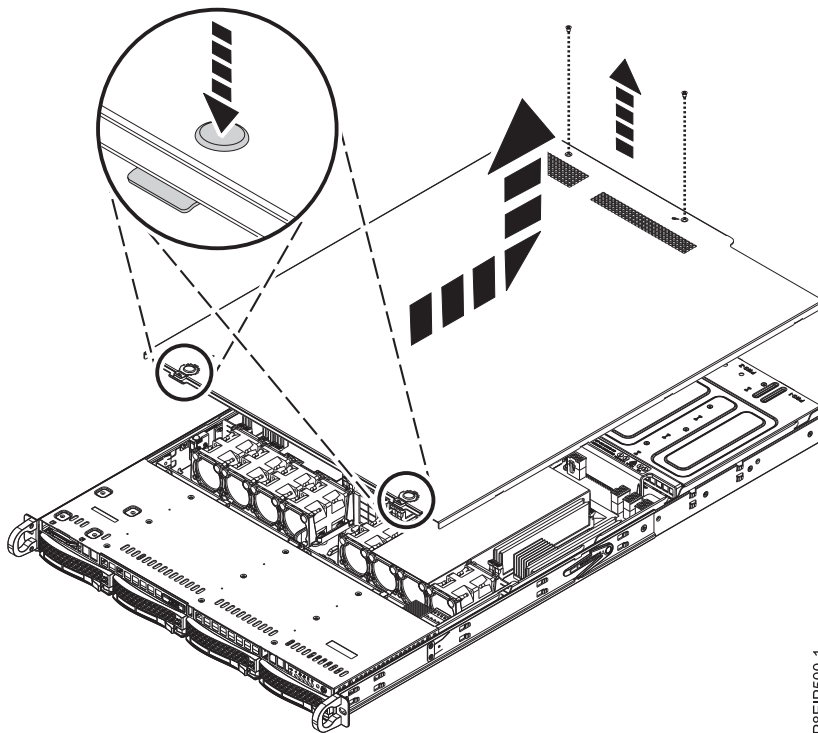

Figure 82. Releasing and opening the cover
2. Remove the two cover screws (1), from the rear of the cover.
3. Press both buttons on the top cover (2) to release the latches as shown in Figure 82, and push the cover back about 0.5 in (1 cm) until it stops. If the buttons do not easily press down, partially remove the drives directly under the buttons.